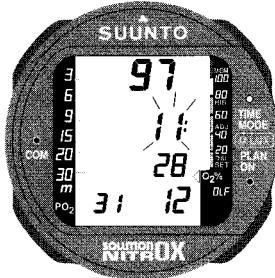

Fig. 4.19 TIME SETTING
2. If you want to change the blinking value, keep the ON/PLAN and COM contacts connected. The blinking display (in this case the hours) will start to scroll. Release your fingers immediately when the correct value is displayed. [To change the A or P for a.m. or p.m. scroll the hours past 12:00] (Fig. 4.19).